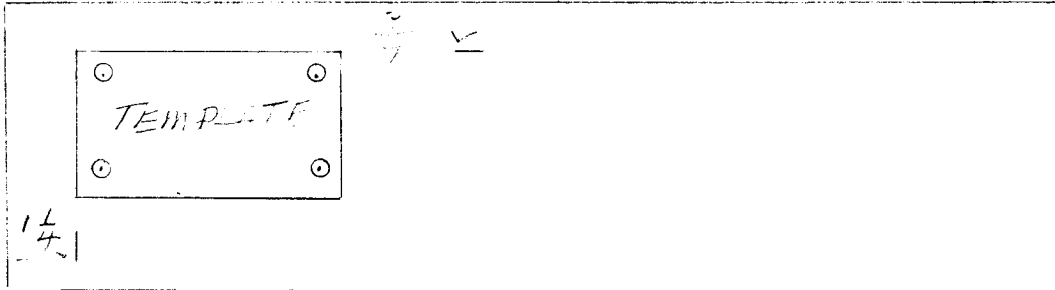

FIG. 1
3. Remove all (5) Mounting Screws from 40K Meter Panel, lower Panel away from Frame.
4. Using Item 2 (MS6415) as a template, locate and drill (4) 13/64 holes in upper left hand side of meter box, Refer Fig. 1.